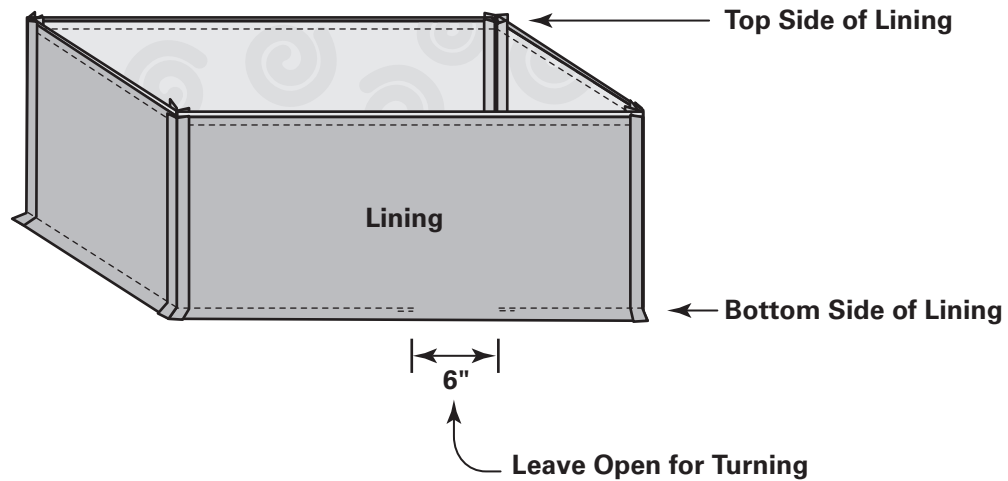

Fig. 20-4
6. Stitch the bottom to the sides on each lining, leaving a 6-inch (15-cm) opening in the seam on one of the linings. Pin the two linings together with right sides facing, upper edges even, and side seams aligned. Stitch the upper edges together. (Fig. 20-4)